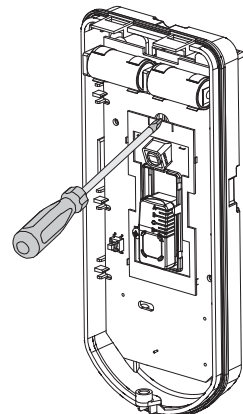

Figure 10: PCB
9. To readjust the Standard Swivel when the PCB is installed (Figure 10):
- b. Use a Hex screwdriver to release the locking screw (see Figure 10).